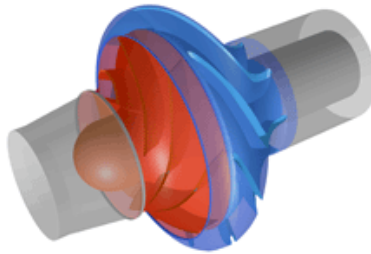

Figure A.3.3: Centrifugal Pump
- **Environmental:** Investigating natural and mechanically induced flows in aerated lagoons, simulation of flow field in a centrifugal pump (Figures A.3.3 and A.3.4).